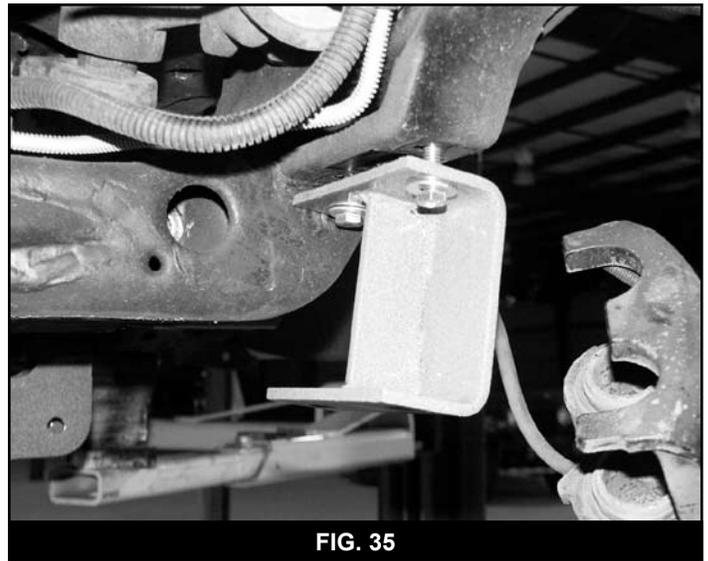

FIG. 35
71. Install the front sway bar drop brackets to the frame using the supplied 3/8" x 1-1/4" bolts, 3/8" USS washers, and nuts from bolt pack #512. Install brackets so they are open toward the center of the vehicle (Fig 35). Attach the sway bar to the drop brackets using the OE hardware.